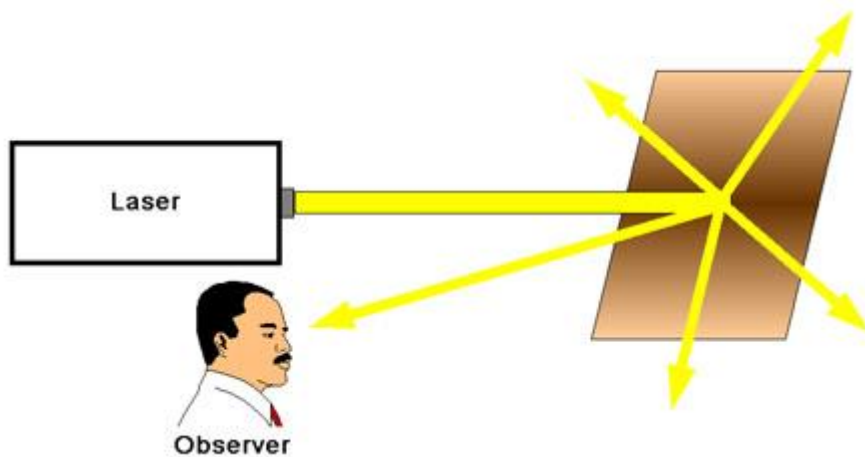

Fig. 7
(18) In Figure 7, the beam of a low-powered laser strikes a rough surface, such as paper or wood, and is reflected in all directions. A portion of this light reaches the eye of an observer several meters away. The observer will see a bright spot that appears to be stippled with many bright and dark points. This "speckled" appearance is characteristic of coherent light, and is caused by a process called "interference," which will be discussed in a later module.